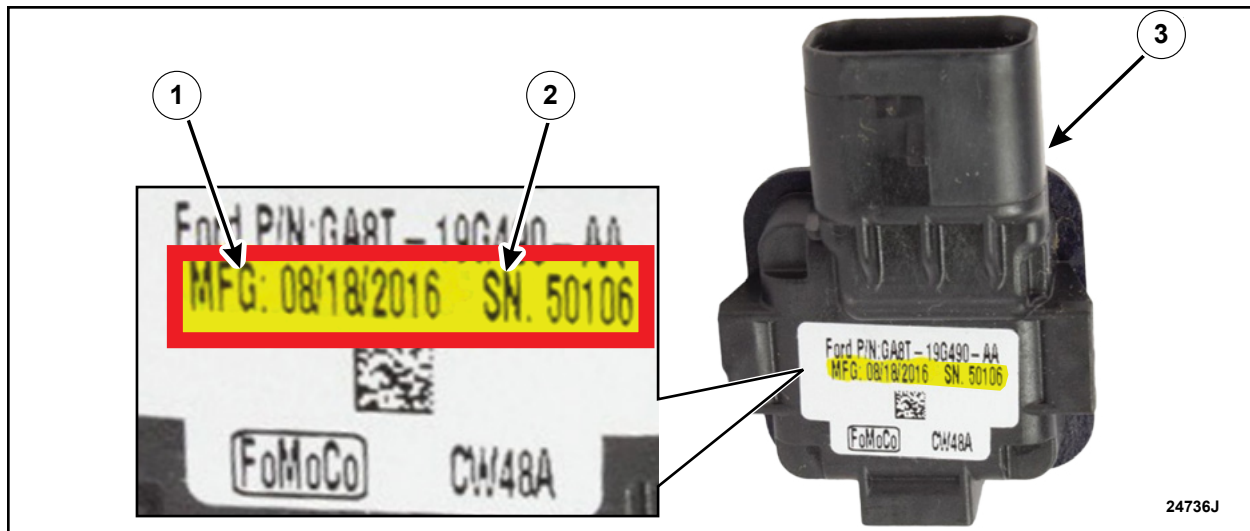

FIGURE 1
2. Write down and include the *new* camera manufacture date and serial number onto the repair order. The *new* camera manufacture date serial number should also be included in the warranty claim submission in the technician comments section. See Figure 1.